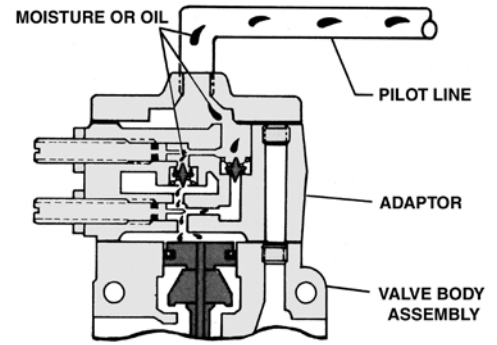

Figure 11- Sequence Adaptor
**R** Accumulations of water or oil have an especially bad effect on devices with small orifices such as timed sequence adaptors. Accumulation in such a device can change the effective size of the time orifice, or even block it completely. See Figure 11. The device must be disassembled, cleaned, lightly lubricated, and reassembled. It may be necessary to install a filter in the supply line to prevent recurrence of the problem.